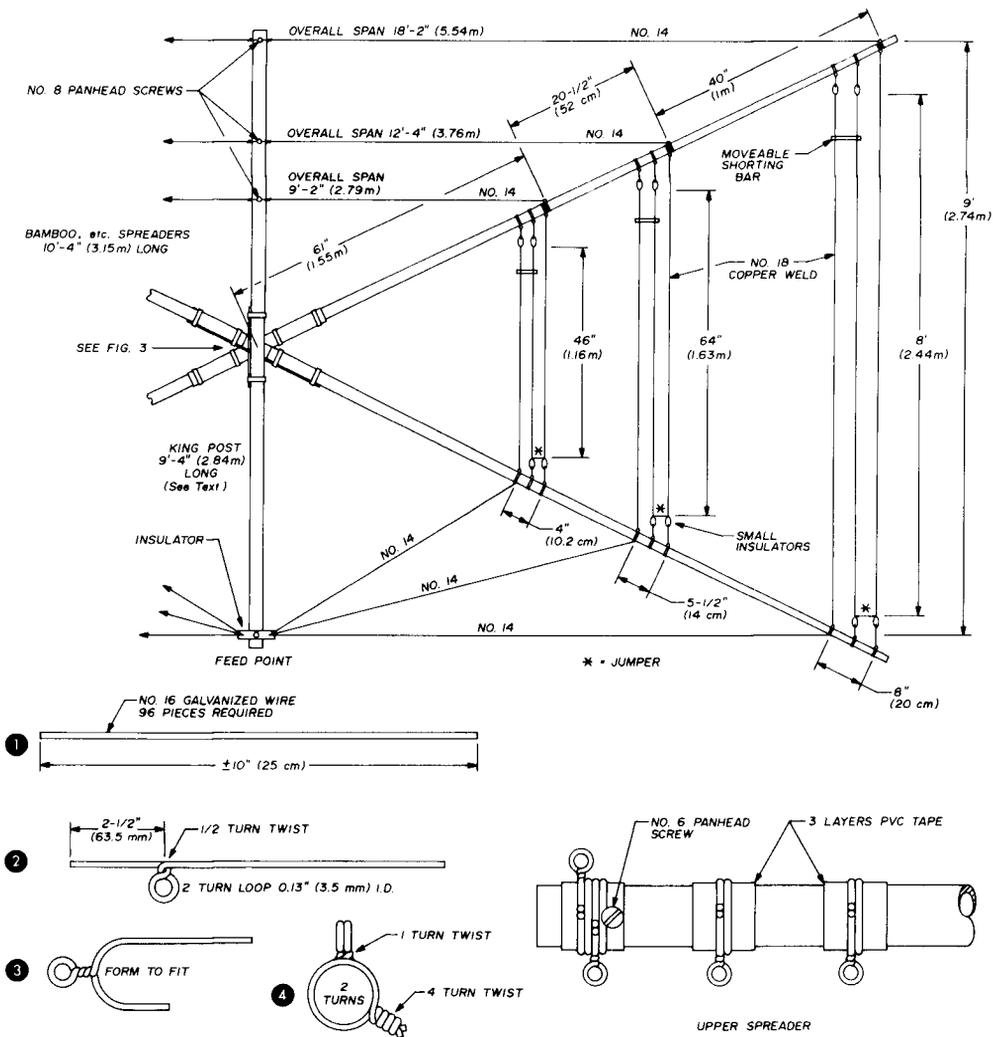

fig. 2. Construction of the reflector and wire loop anchors used in the three-band quad.
**The wire-loop anchors** are formed as shown in **fig. 2**. The approximately 1/8 inch (3mm) ID two-turn loop is made by wrapping the number-16 (1.3mm diameter) galvanized iron wire around a suitable nail held in a bench vise. First make up one sample and try it for size at the 10-meter section. To secure the anchor to the spreader, make two turns around the anchor point and then twist the remaining ends into a pigtail. After that step, insert a nail through the loop ID and apply an additional half turn more twist. The critical anchors are those holding the number-14 (1.6mm) horizontal wires. To prevent slippage, number-6 (3.5mm) panhead screws are driven alongside of the wrapped wire; a number-39 drill (0.1 inch or 2.5mm) is used to start them in the bamboo.
fig. 2 is assembled in the same way but without the insulators and shorting bars. To retard corrosion at the anchor loop connectors, dab on a bit of axle grease.